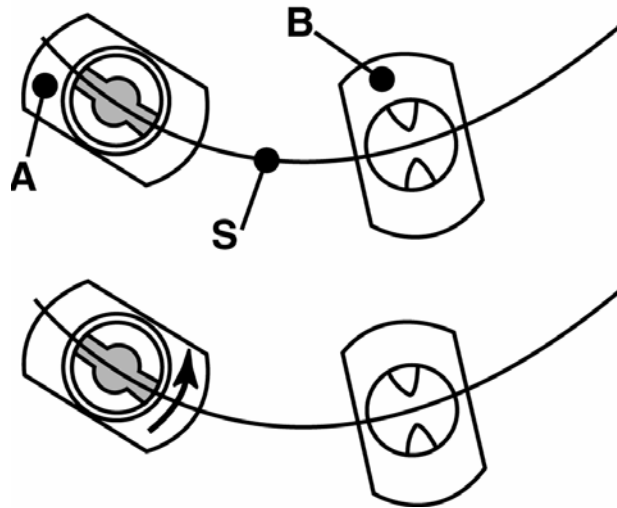

Figure 1
The stud A (Figure 1) revolves freely. The hairspring S can be centred between the index pins B without bending the hairspring. To turn stud A, use tweezers or the tool ref. 502 200 0061.